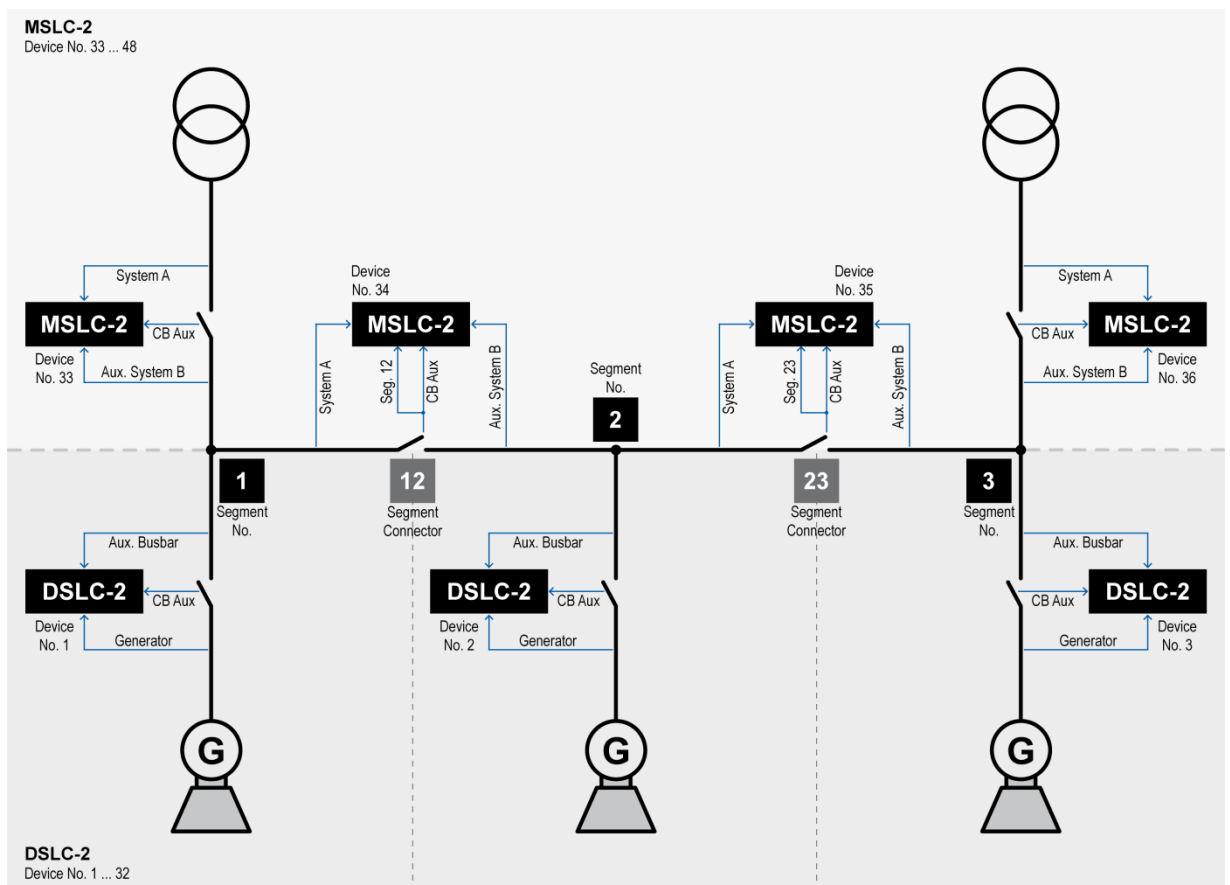

Figure 3-34: Example of an online diagram with segment numbers and segment connector feedbacks
2. Draw the measurement systems arrows between unit and bars (refer to Figure 3-34). Please consider following rules:
3. Draw the segment numbers into your online diagram (refer to Figure 3-34).
4. Draw the device numbers of your units in your online diagram (refer to Figure 3-34).
5. Draw the “CB Aux” feedbacks and segment connection feedbacks in your online diagram (refer to Figure 3-34).